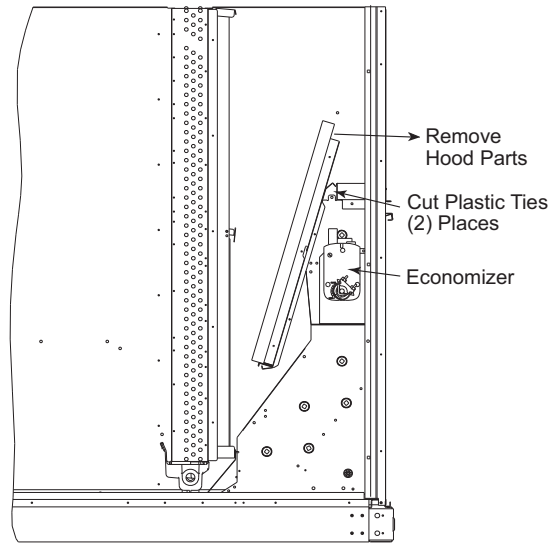

Fig. 10 — Economizer Hood Package Location
3. Locate and cut the (2) plastic tie-wraps being careful (see Fig. 10). Be careful to not damage any wiring or cut tie-wraps securing any wiring.